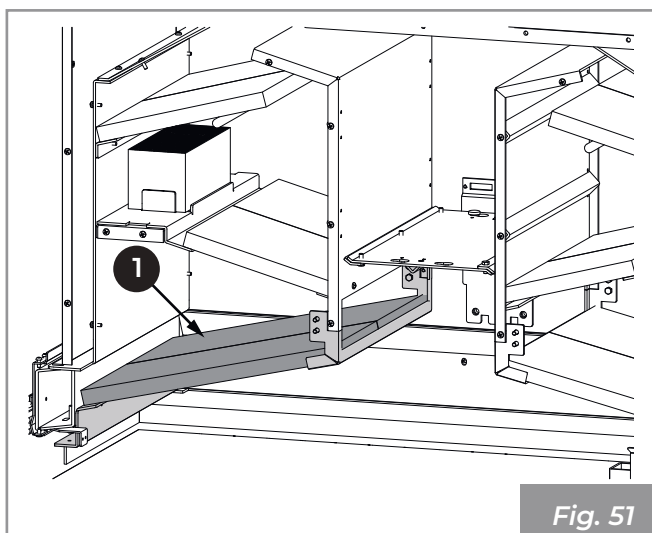

Fig. 51
4) Slide out and extract the panels (1) (Fig. 51).